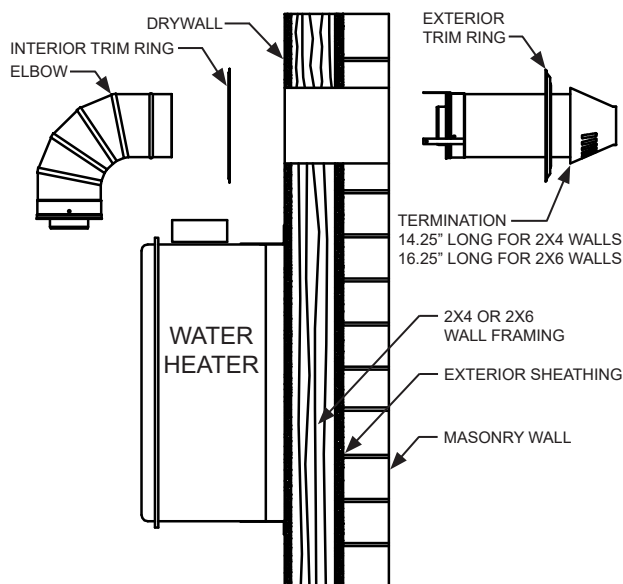
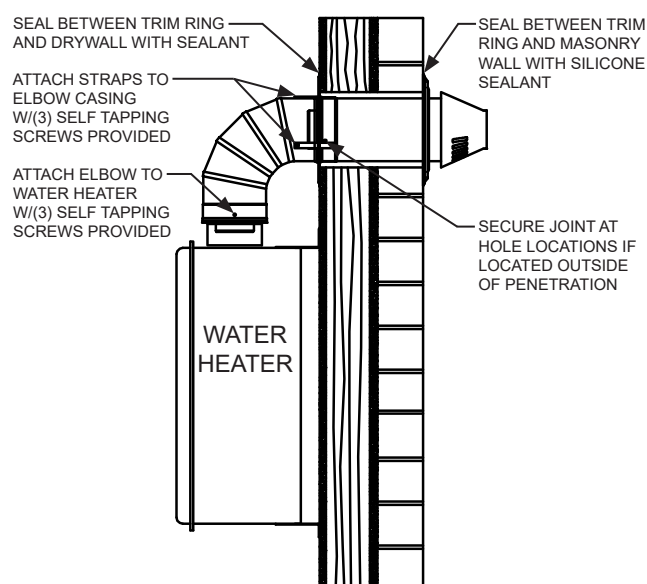

FIG. 1
FIG. 2
Attach the 90 degree elbow to the appliance using (3) each #8 x 1/2" long sheet metal screws provided as shown in **FIG. 1** and **FIG. 2**. Slide the termination through the hole from the exterior side of the wall into the elbow joint.
Apply a bead of silicone sealant between the trim rings and exterior/interior walls. Attach the trim rings to the exterior/interior walls (See **FIG. 2**).